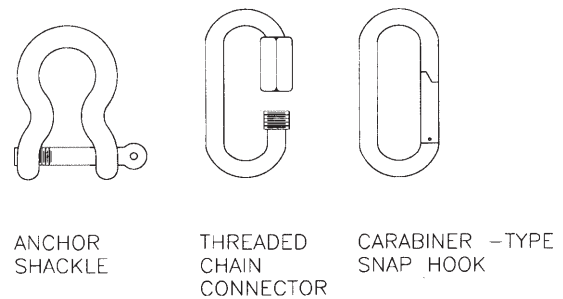

Figure 3 – Examples of Useful Rigging Hardware
4. Use certified hardware rated for overhead lifting to suspend the speaker (See Figure 3).